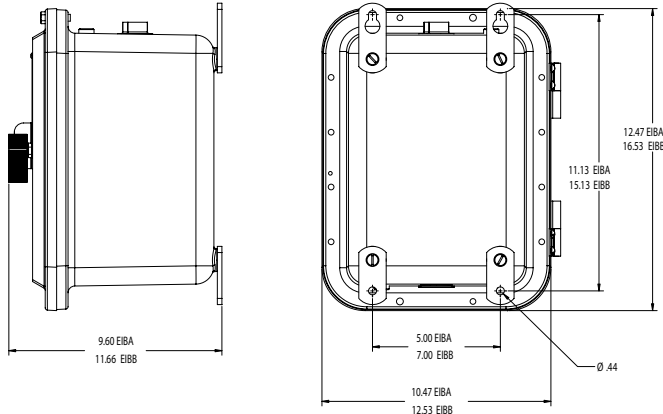

FIGURE 1
1. Select a mounting location that will provide suitable strength and rigidity for supporting the circuit breaker enclosure, all contained wiring, and devices. Figure 1 shows the mounting dimensions of the EIB Series enclosures.